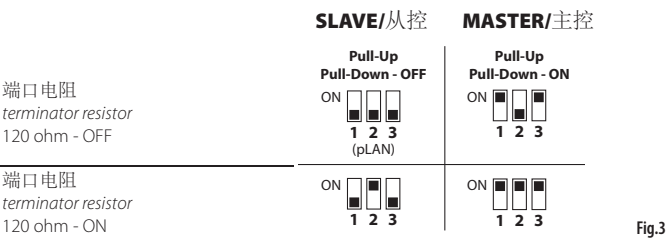

Fig.3
USB 端口 (1)	RS485 最大 115.2 Kb/s 可拆卸螺接头 3.81mm 插脚 屏蔽双绞线 AWG 20-22 ± 最长 = 500m - 紧固扭矩 0.25Nm (2.2lbf x in) 通过DIP开关设定主/从 (Fig.3)
COM1 (2), COM2 Serial ports	RS485 max 115,2 Kb/s Removable screw connector 3,81mm pitch Shielded twisted pair cable AWG 20-22 for ± Lmax = 500m - tightening torque 0.25Nm (2.2lbf x in) Master/Slave set via dipswitch (Fig.3)